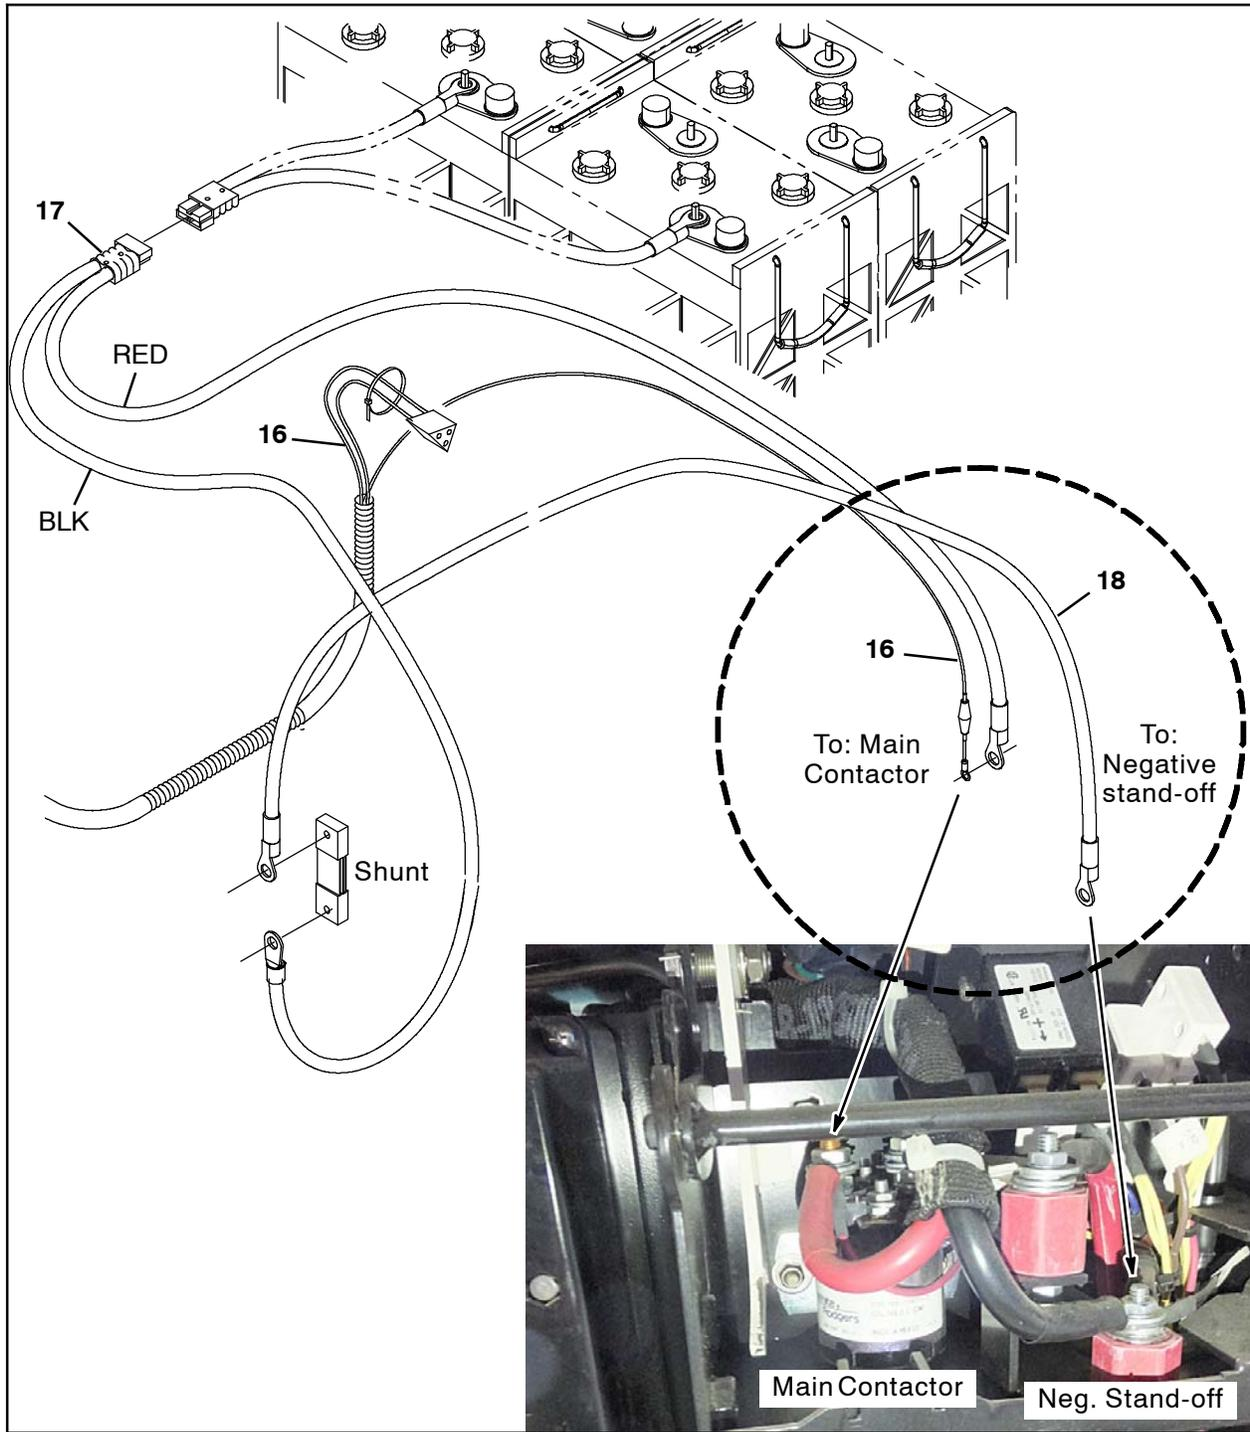

Fig. 13
16. Route and connect the battery cable assembly (17) to the M1 main contactor where the removed red battery cable was previous installed. (Fig. 13)
18. Route and connect the black shunt cable (18) to the negative ground stand-off where the removed battery cable was previous installed. (Fig. 13)
17. Route and connect the red fuse wire from telemetry harness (16) to the M1 main contactor where the removed red battery cable was previous installed. (Fig. 13)